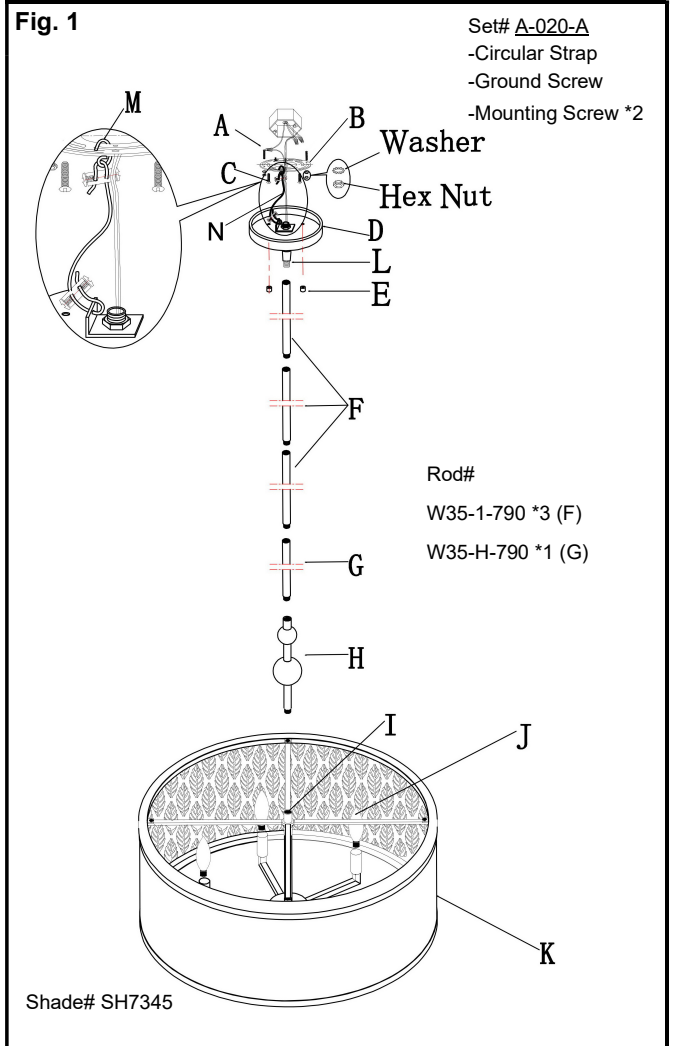

Fig. 2
CONNECTING THE WIRES (Fig. 2)
8. Connect the electrical wires as shown in Fig.2, making sure that all wire connectors are secured. If your junction box has a ground wire (green or bare copper), connect the fixture's ground wire to it. Otherwise, connect fixture's ground wire directly to circular strap (B) using green screw provided.